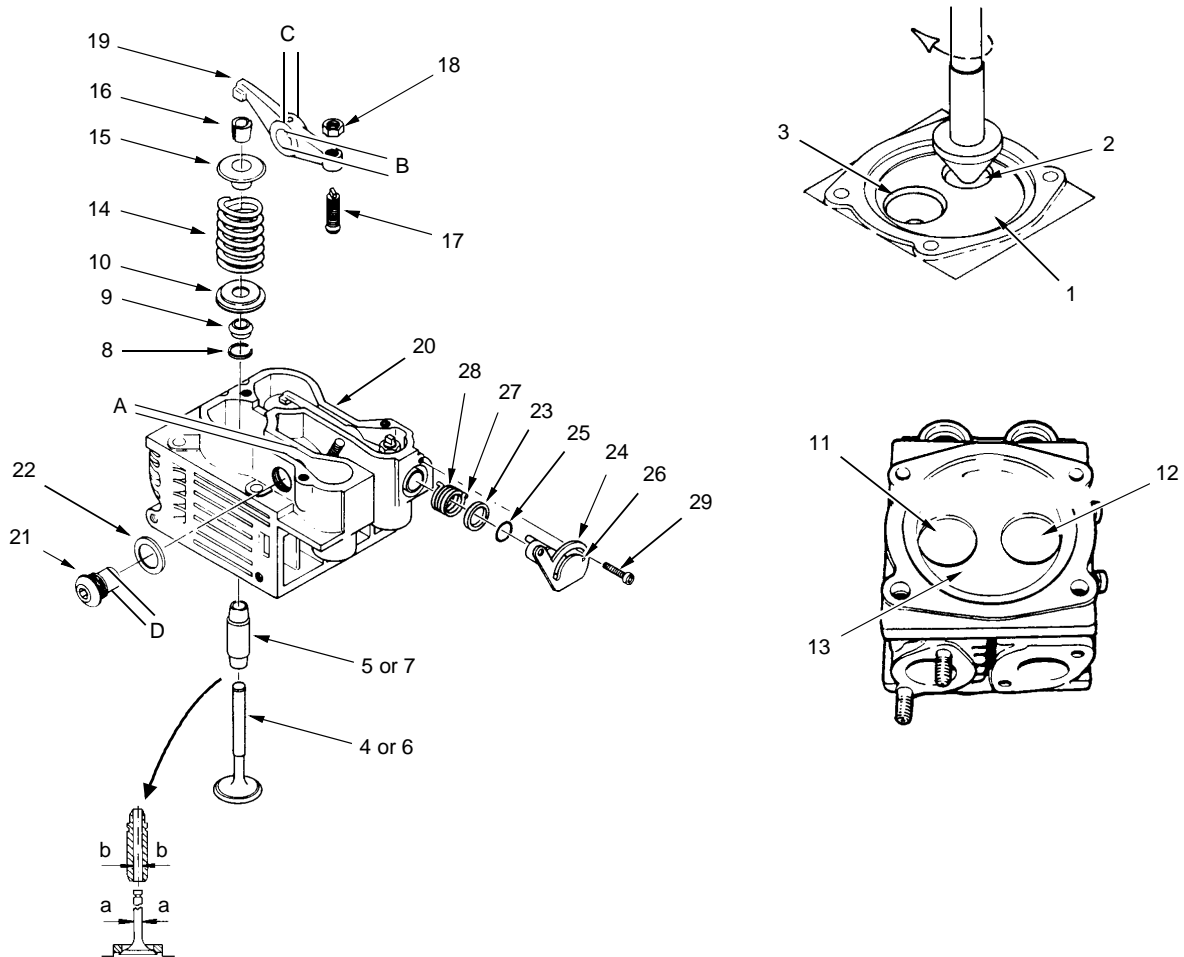

Figure 15. Cylinder Head Repair and Assembly
3. Remove cylinder (2) from piston (1). Add or remove gaskets (3) as required to obtain piston (1) protrusion of 0.004 to 0.008 in. (0.1-0.2 mm).
4. Slide cylinder (2) over piston (1) and press into crankcase.
**ASSEMBLE CYLINDER HEAD** (Refer to Figure 15)**INITIAL SET-UP:****Tools:**